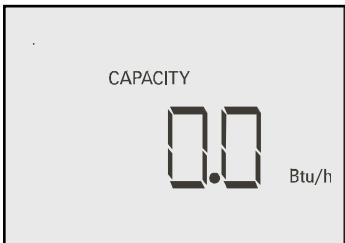

Figure 11
- 5.5.1** Press MODE button - CAPACITY will be displayed on LCD (Fig.11).